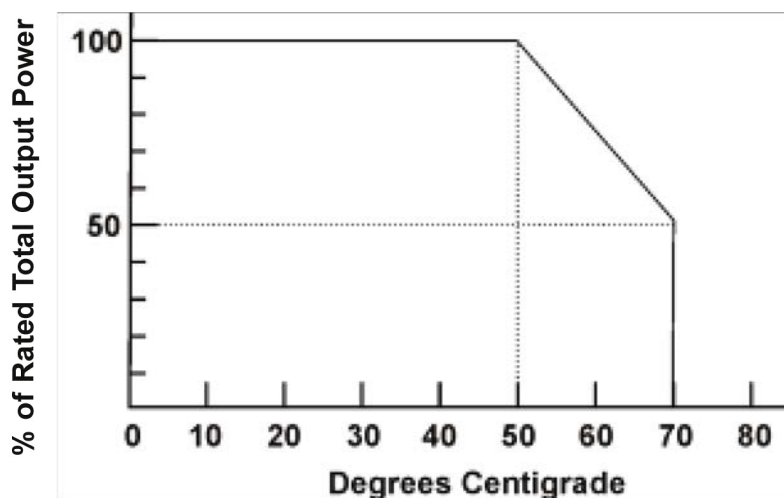

Figure 7 - Rated Total Output Power vs. Ambient Temperature
- 13.4 Output Power.** The maximum continuous output power from all outputs is 600 watts. The maximum combined current or power for V1 and V2 on any model must not exceed 120 amperes or 500 watts; for V3, V4 and V5 combined, 171 watts; and for the total unit, 600 watts. The maximum output power of a PowerCassette may be drawn up to 50°C ambient temperature. Above 50°C the total output power must be derated by 2.5%/°C. See Figure 7. The maximum operating ambient temperature is 70°C, at which the total output power must be derated by 50%.